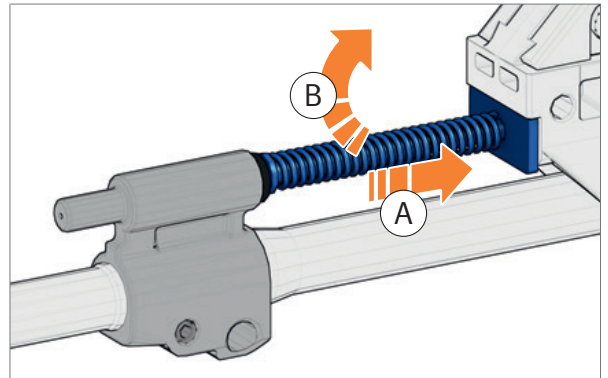

Fig. 101: Remove rod
2. Pull rod back and hold it (*Fig. 101*).
3. Pull rod upwards and forwards out of receiver (*Fig. 101*).